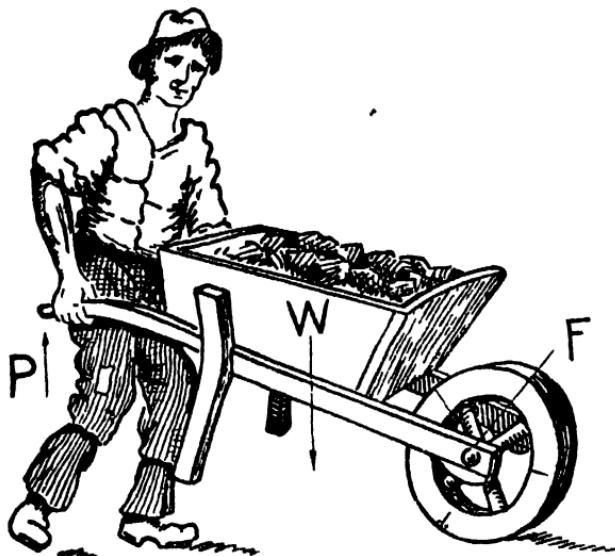

Fig. 83.
It is very much better to move a load of bricks by carting them away in a wheelbarrow (see p. 84, Fig. 83) than by sliding them along the ground in a flat box. In this latter case the whole of the bottom of the box, which is rough, is rubbing against the ground while in the case of the wheelbarrow only one part of the smooth wheel at a time is coming into contact with the ground.
**The wheelbarrow** is a form of lever which is balanced at one end (the wheel) with the load between the fulcrum or balance point and power point (see Fig. 83).